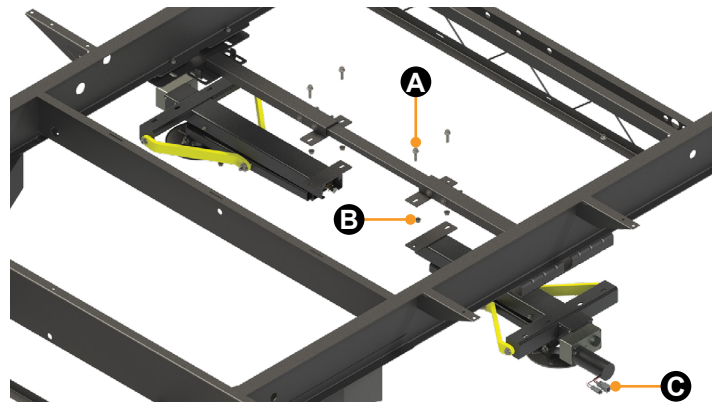

Fig.8
15. Align the C-Jack mounting holes with the holes on the I-beam mounting bracket across the frame roadside to curbside (Fig.8).